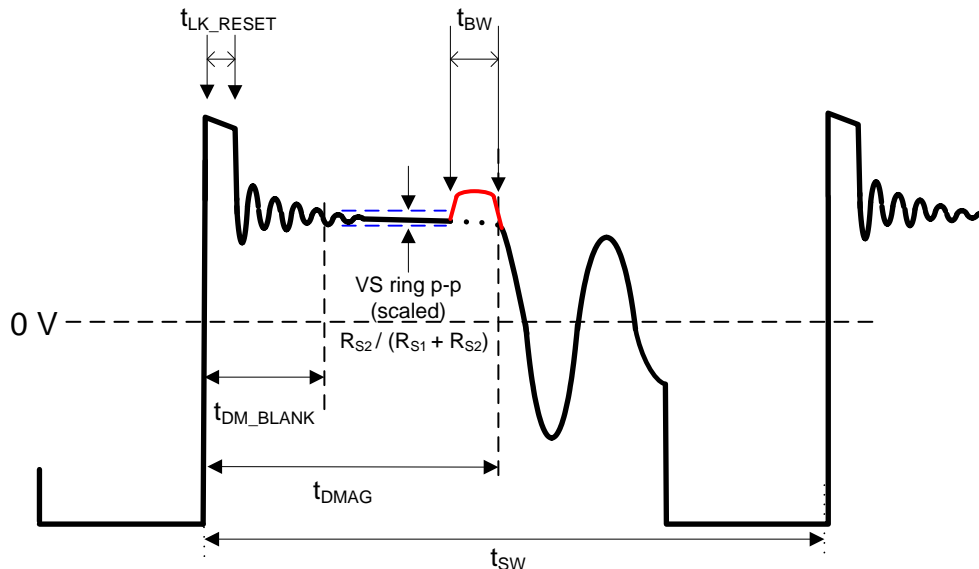

图 25. Auxiliary Waveform Details
Special design considerations need to be observed when using synchronous rectifiers (SR) with the UCC28704. 图 14 depicts the de-mag time partition. When using UCC28704 with SR, a portion of the de-mag time needs to be reserved for  $t_{BW}$ , as shown in 图 25, which is the body diode conduction time when SR MOSFET turns off before the de-mag time ends.